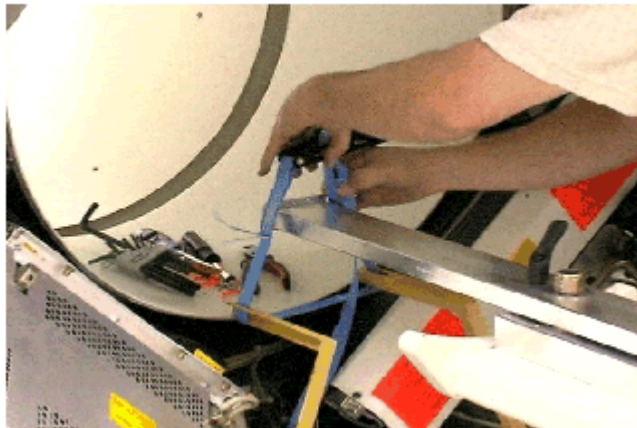

Fig. 5: Strapping Lifting Device
- Secure the HV tank to the tabletop with the strap. Run the strap through the strap cut-outs (item 2) to ensure it is at the correct lifting position. See fig. 5